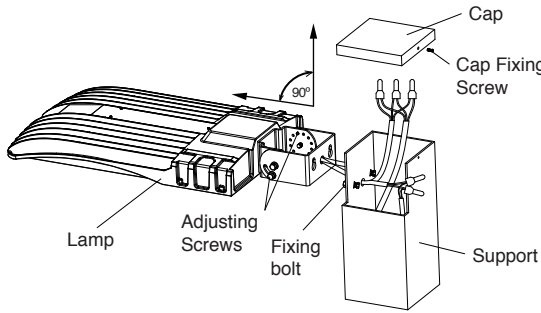

Figure 2-1
1. Loosen cap fixing screw and take cap off. Loosen fixing bolt, fixed the fixture on the support and tighten fixing bolts. (Figure 2-1)
2. Let the AC wire go through support hole and connected correctly. Close cap and tighten cap fixing screw after AC cable is well placed in the support. (Figure 2-1)
3. Loosen adjusting screws, align the fixture to required angle and fasten the screws. (Figure 2-1)